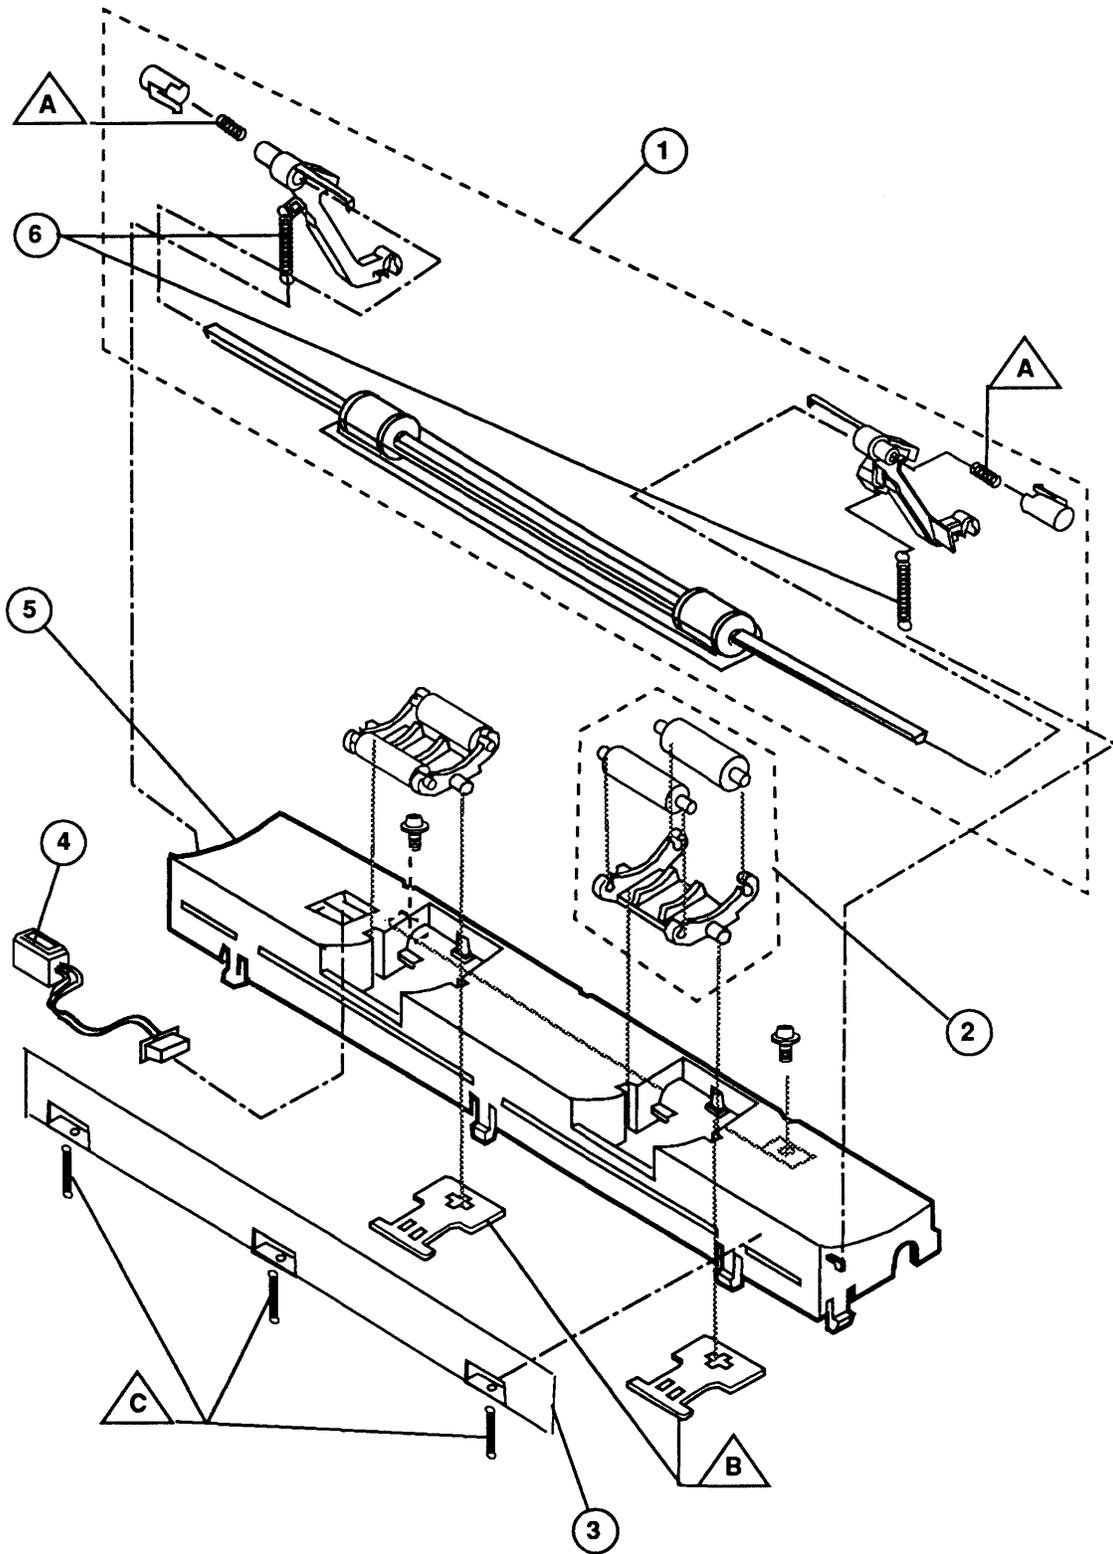

Figure 2
- IPL.7 Paper Guide Assembly (Figure 2)
□ PAPER GUIDE ASSEMBLY (Figure 2)